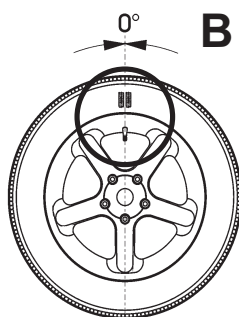

Figure 39
- Readjust the tire on the rim until the double mark coincides with the valve (Fig. 39).